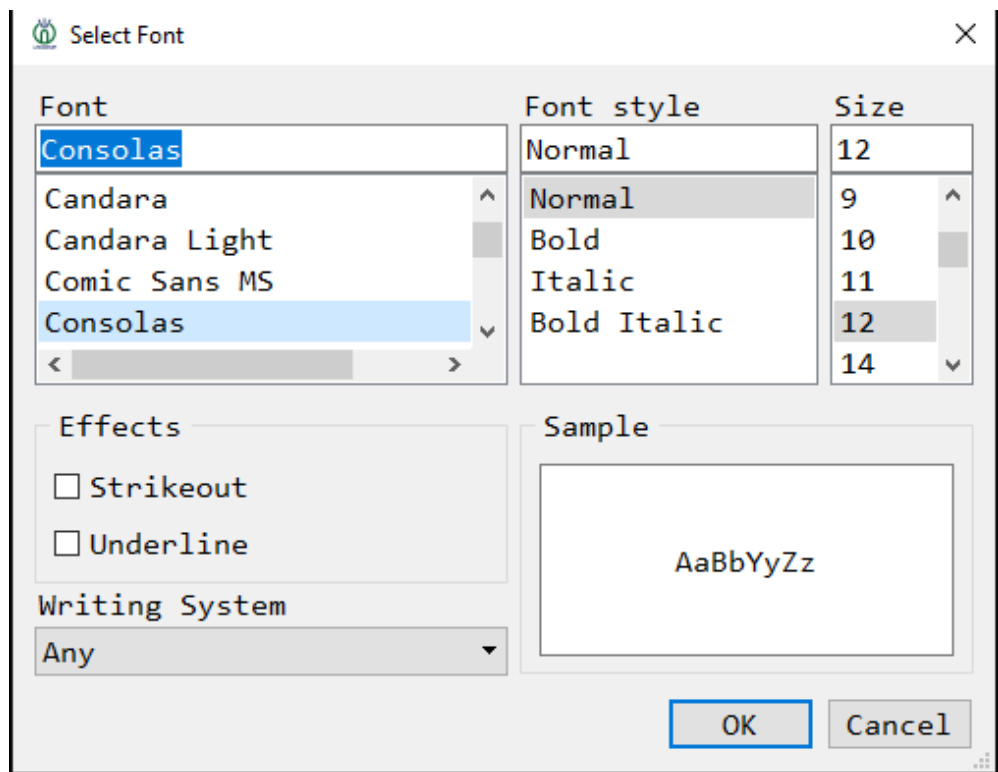

Fig. V-54 Font Setting
Click the shortcut toolbar icon  or "Tool (T)" ->"Measurement" ->"Text Color..." in the menu bar to enter the line color setting (Fig. V-54). After color setting, click "OK" to apply the new color, or click "Cancel" to cancel the modification.
Click the shortcut bar tool icon  or "Tool (P)" ->"Measurement" ->"Text Font..." in the menu bar to enter the text font option (Fig. V-54). Font choice can be used to set the font, font style, font size, underline, comment line and other properties respectively, and the font effect is displayed in the font example window. Click "OK" to apply new text font, and click "Cancel" to cancel modification.